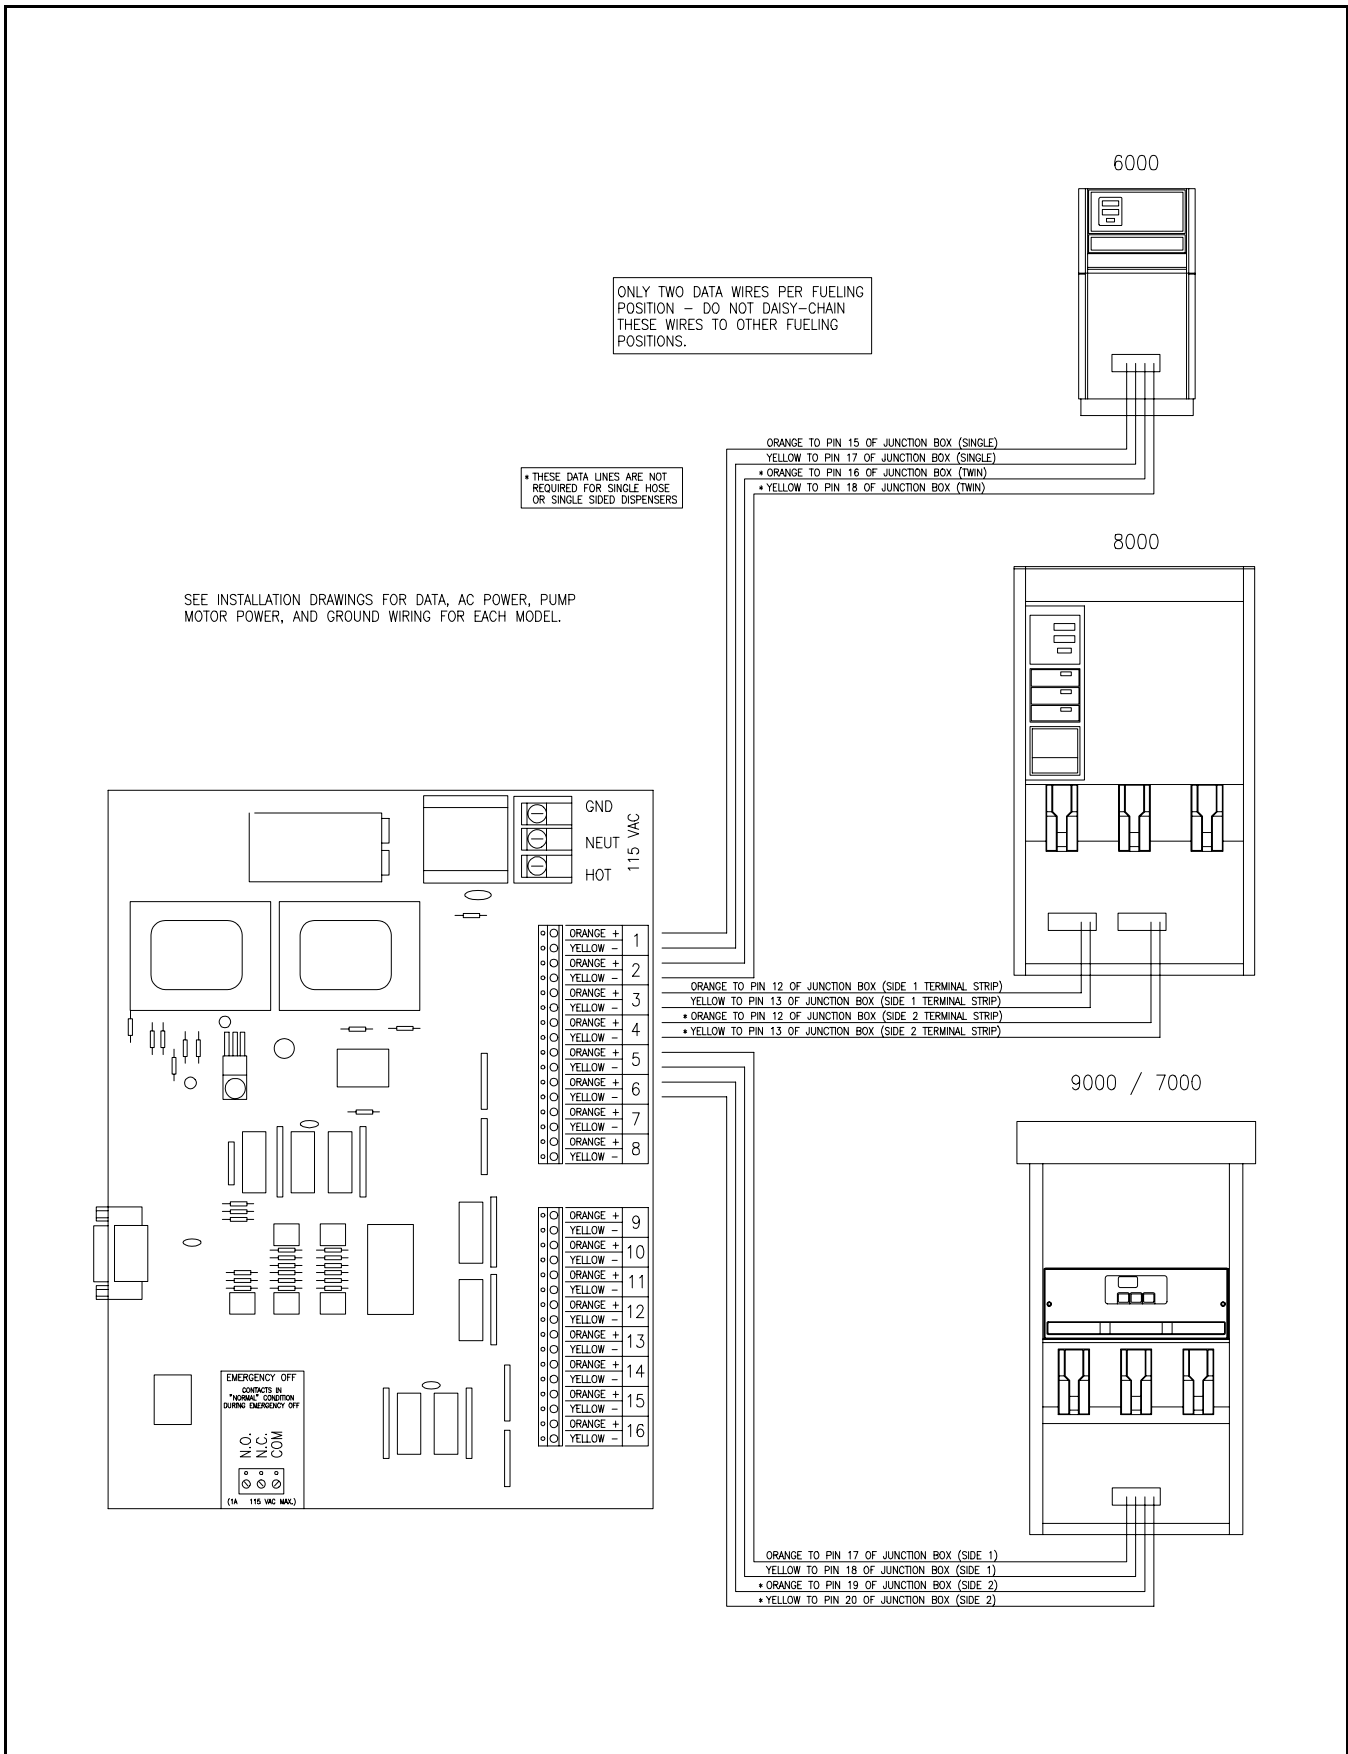

Figure 4 - 405E
3. Connect the 18 gauge data wires from each fueling position to the terminal strip in the interconnect box. See Figure 4 or 7 through 9 for identification of the pins. **ONLY DATA WIRES ARE ENDED AT THE TERMINAL STRIP IN THE INTERCONNECT BOX.**